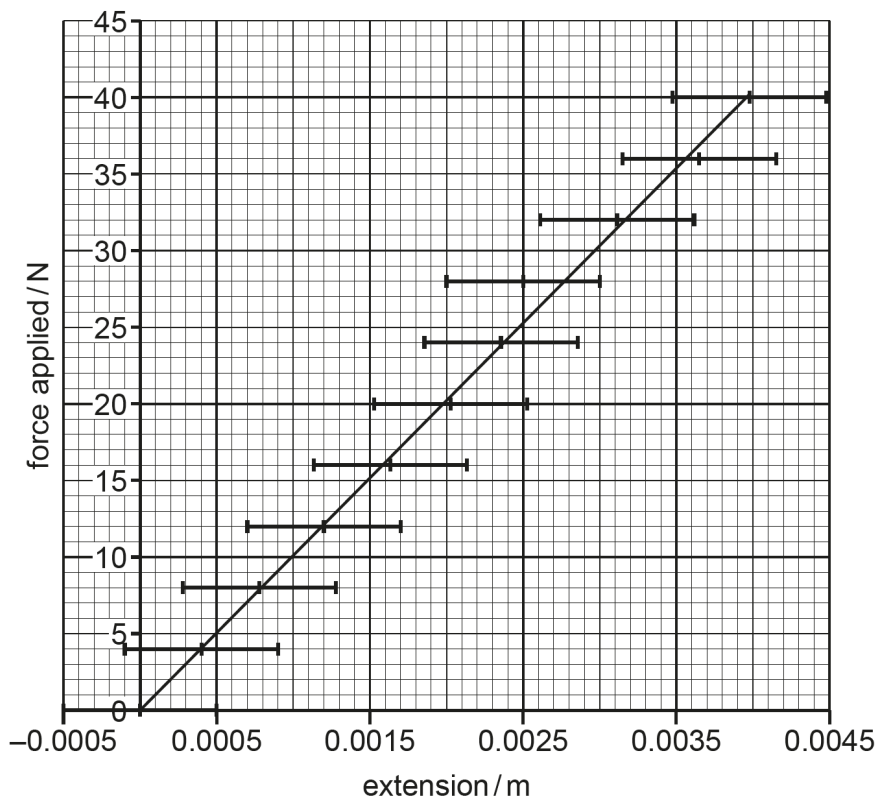

Fig. 4.2
- (b) Metals behave differently from rubber under tension. **Fig. 4.2** shows data the student collected whilst performing an experiment to extend a metal wire with diameter 0.5 mm, original length 4 m.
- (i) The line of best fit has been drawn on **Fig. 4.2**. Draw another line within the error bars shown, which has the greatest difference in gradient to the first line. [1]
- (ii) The gradient of the line of best fit in **Fig. 4.2** is $10\,100\text{NM}^{-1}$. Use this to calculate a value for the Young modulus of the wire. Use the line you have drawn to calculate its absolute uncertainty.
'The gradient of the line of best fit in **Fig. 4.2** is $10\,100\text{Nm}^{-1}$ '